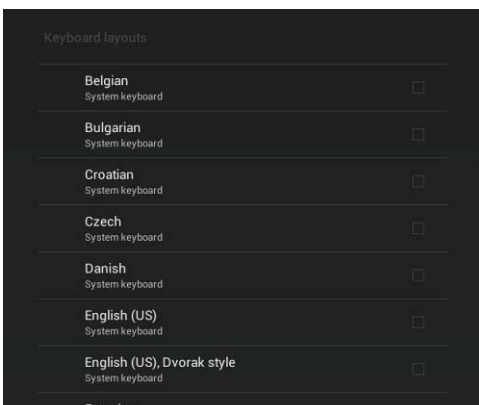

FIG. 91 Keyboard Layout window
- Press **Set up keyboard layouts** to open the *Keyboard Layout* window (FIG. 91):